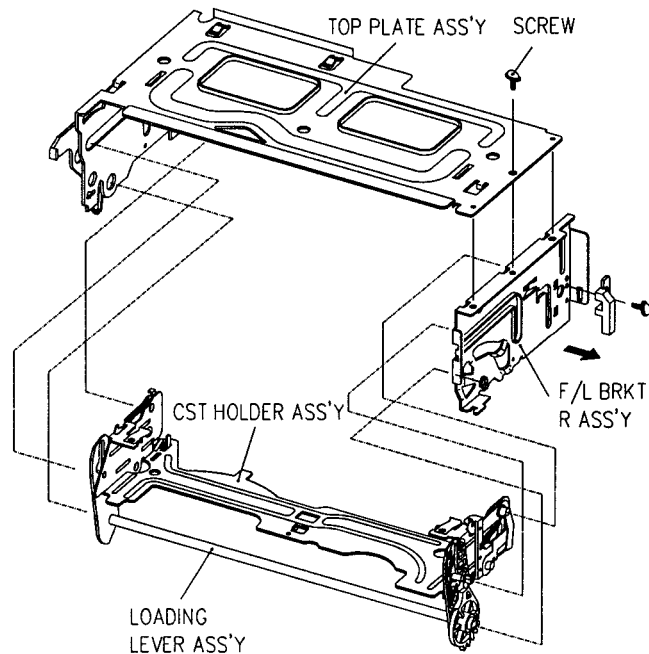

Fig.3-2 DISASSEMBLY OF THE FRONT LOADING ASS'Y
3-2. DISASSEMBLY OF THE FRONT LOADING ASS'Y (See Fig. 3-2~3-6)
- b. Remove the CASSETTE HOLDER ASSEMBLY. (Fig. 3-2)